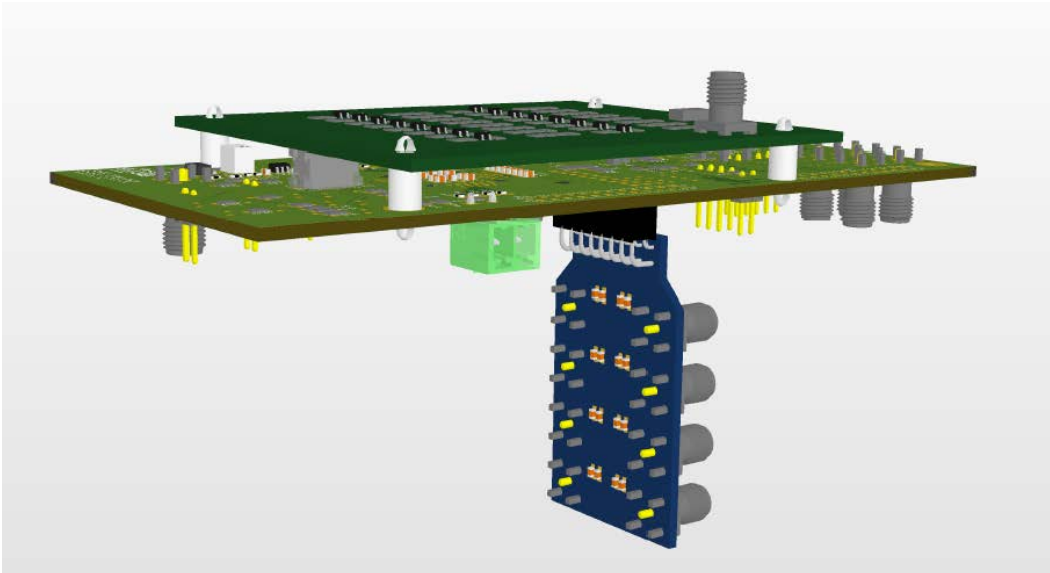

Figure 13: Example of usage of the SiPM connector
6. 17 – January – 2017: Change Figure 13, because the external SMA board is drawn in the wrong direction.